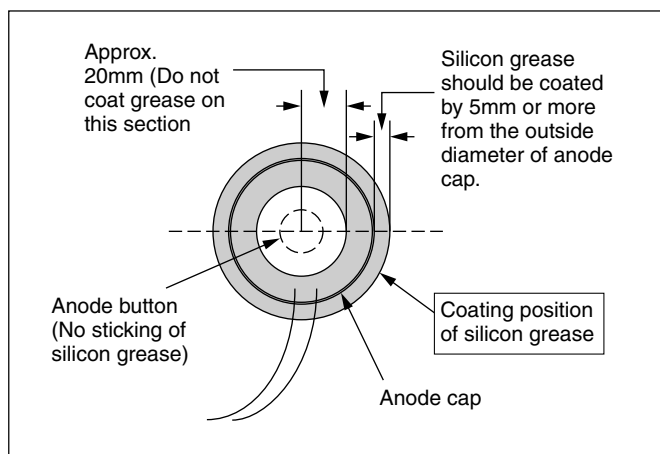

Fig. 6
- 2. Coat silicon grease on the section around the anode button. At this time, take care so that any silicon greases dose not sticks to the anode button. (Fig. 6)